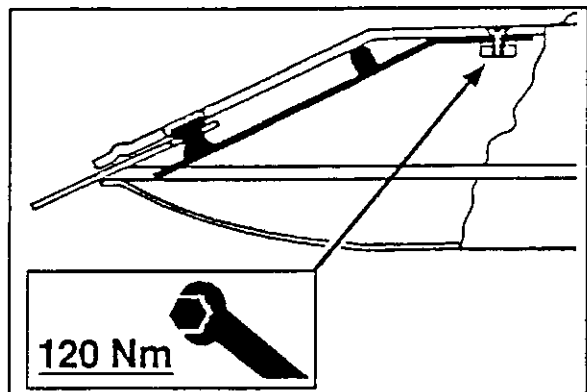

fig. 4-38
- Secure new leaf spring to 120 Nm torque (fig. 4-38).